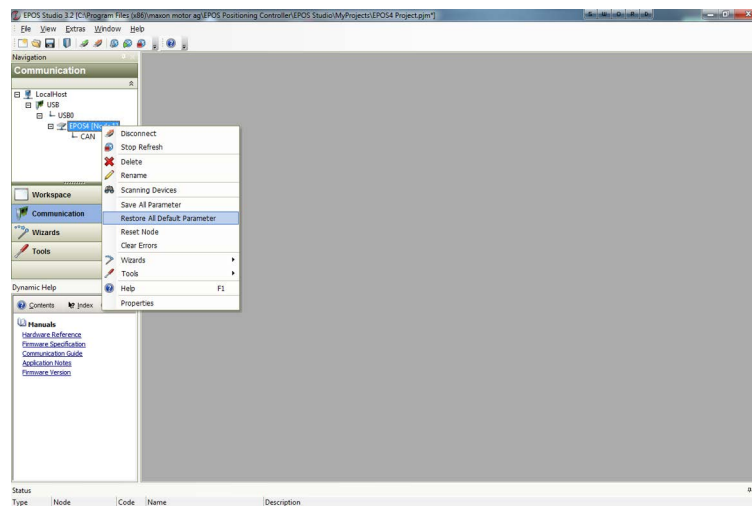

Figure 8-123 Adjustment of SSI commutation offset value | Restore all default parameters
- 6) If you are not quite sure what parameters are set, execute the command «Restore all default parameters» (→Figure 8-123) before continuing.